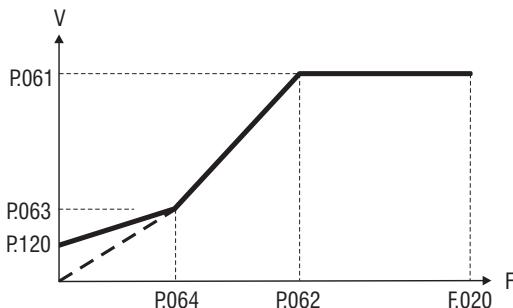

Figure 7.6.8: Custom V/f shape
P.064 parameter represents the return point of the output voltage, on the linear V/f characteristic (see figure 7.6.8).